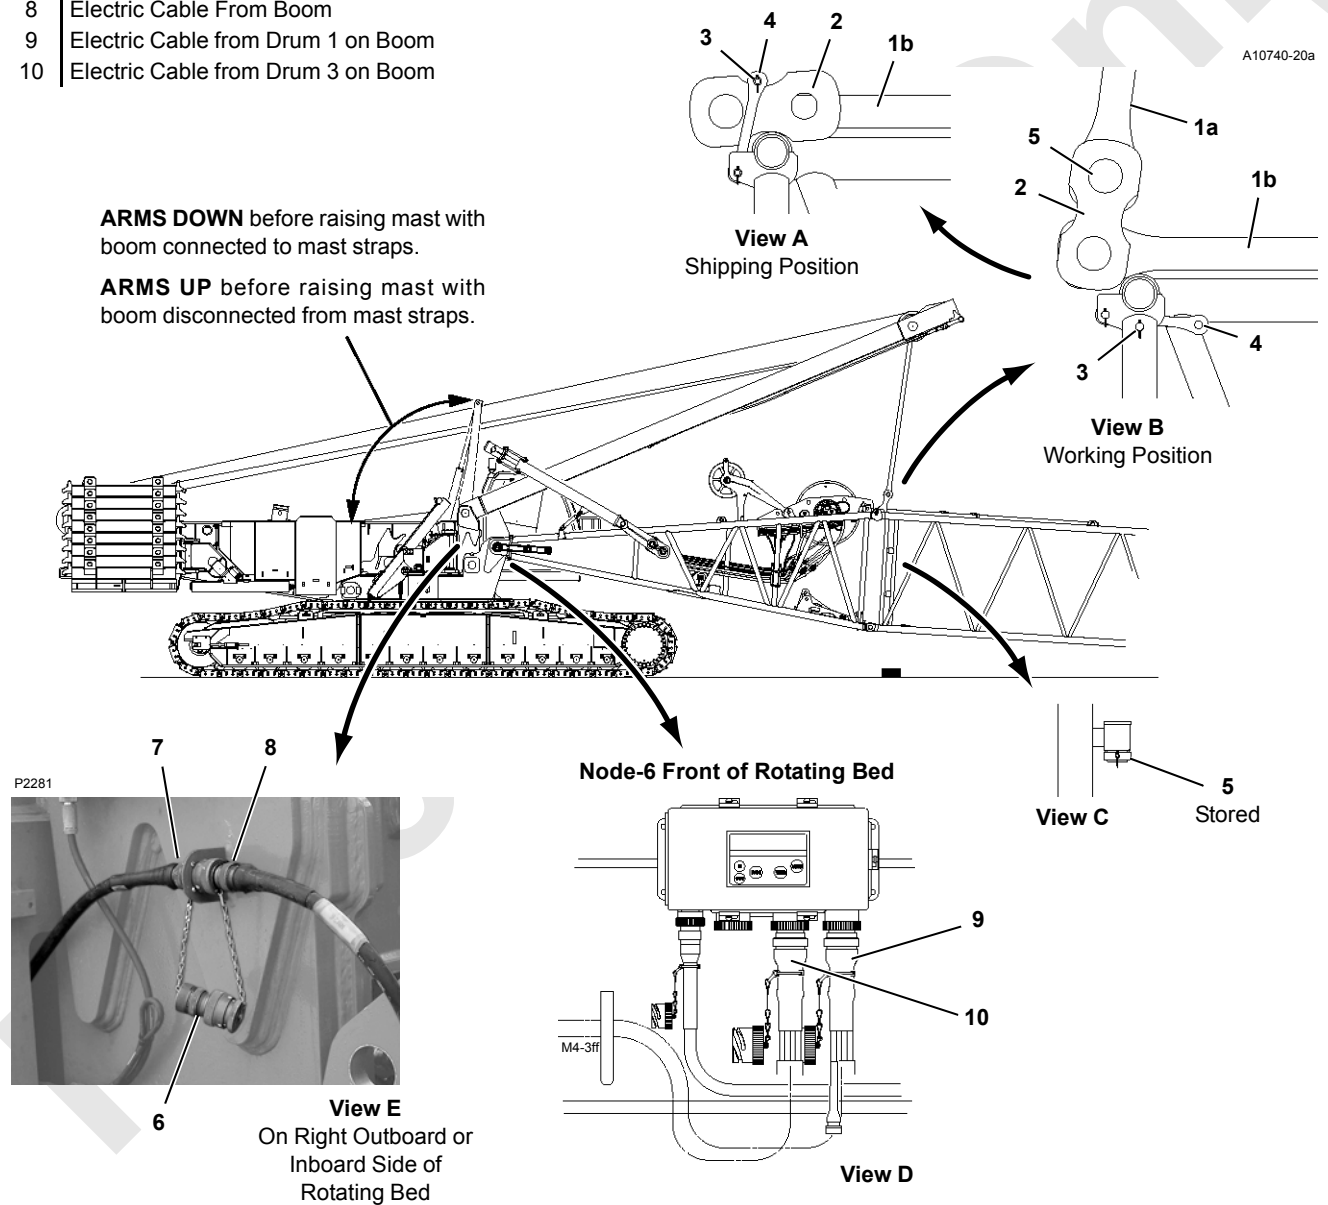

FIGURE 4-21
See Figure 4-21 for the remaining steps.
- a. Disconnect electric cable (8, Figure 4-21, View E) (from boom) from electric cable (7) on crane.
- c. Connect sealing cap to electric cable (8) and store electric cable (8) on boom butt.
- d. Disconnect electric cables (9, Figure 4-21, View D) and (10 optional) from node on front of rotating bed.
2. Disconnect mast straps from boom (see Figure 4-21):
- b. Unpin links (2, View B) from mast straps (1a) and store links (2) and straps (1b) as shown in View A.
- c. Store pins (5) in pockets on insert (View C).